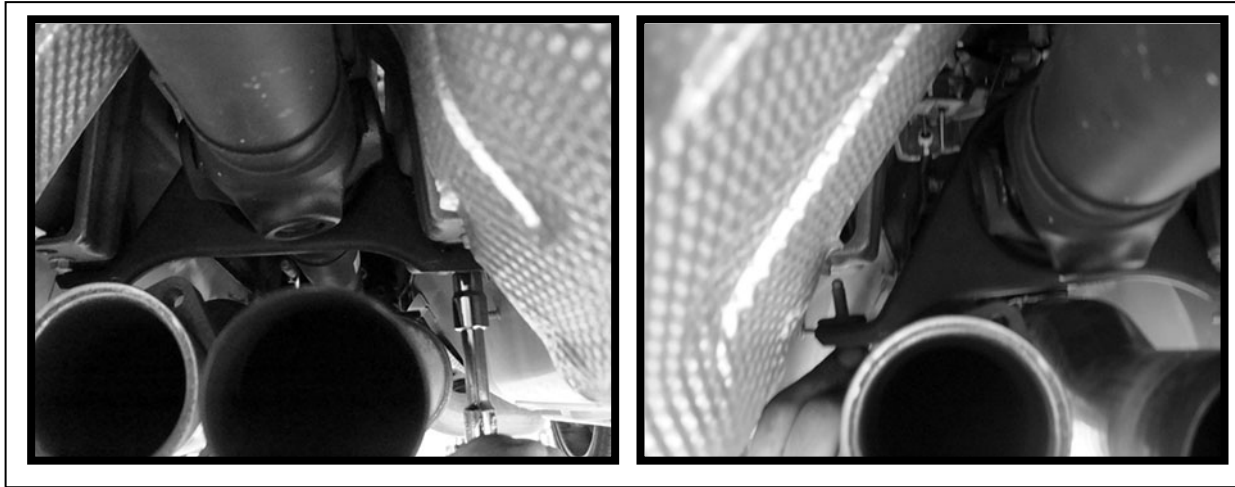

FIGURE 10-14
17.0 REMOVE TWO BOLTS HOLDING DRIVESHAFT BLOCK, AND REMOVE PILLOW BLOCK. (FIGURE 10-14)